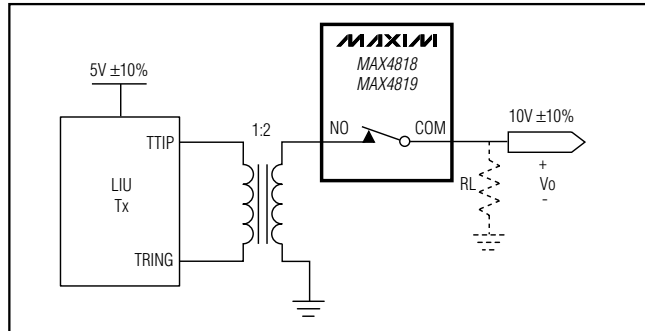

Figure 1. Fault Protection
The fault protection of the MAX4818/MAX4819 allows the devices to handle input signals of more than twice the supply voltage without clamping the signal, latching up, or disturbing other cards in the system. The device detects when the input voltage drops below the negative supply. As soon as a fault condition is detected, the switch is immediately turned off for 128 clock cycles (typically 128 μ s). At the end of the 128 μ s timeout, the switch is turned back on for one clock cycle. At the end of the one clock cycle, if the signal is within the operating range, the switch will remain on. Otherwise, the device will turn the switch off again for 128 clock cycles. This will repeat until the signal is within the operating range. In T1/E1 redundancy applications, this can happen when the load resistor (RL) is removed or disconnected for any reason, as shown in Figure 1. Without a load resistor, the output voltage when using a 1:2 transformer can be as high as $\pm 11V$.